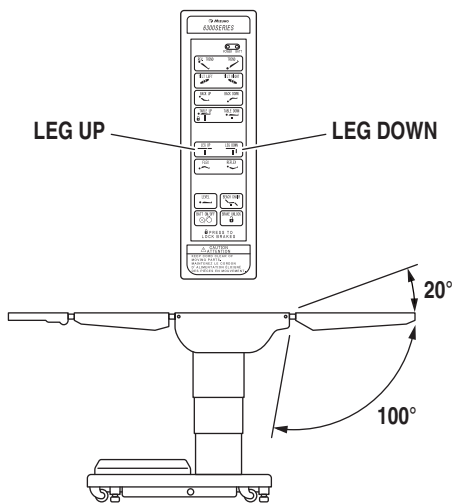

Figure 2-12. Leg Section Positioning
f. Leg Section To lower the leg section, press the LEG DOWN button (figure 2-12). The leg section will go down to 100° below horizontal. To raise the leg section, press the LEG UP button. The leg section will go up to 20° above horizontal.